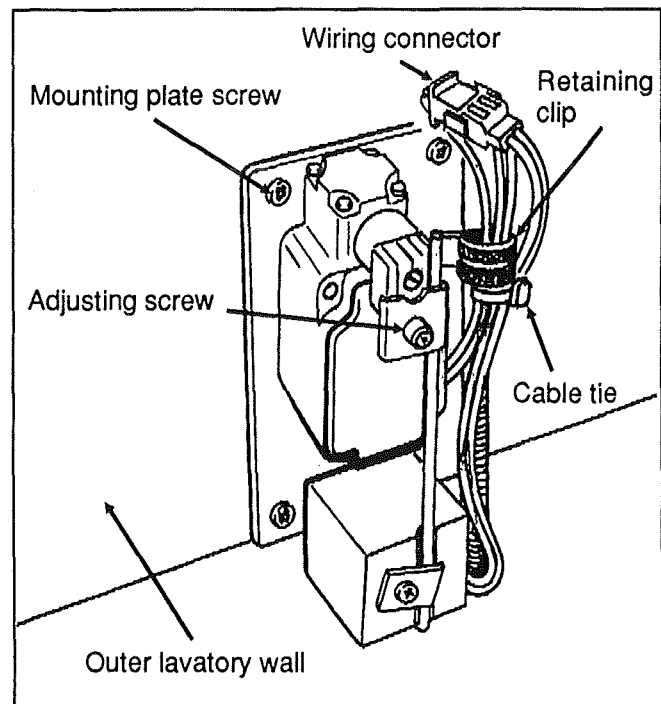

FIG. 10 - Comfort level Indicator
2. Locate the comfort level indicator cover, remove the four (4) Phillips head screws and washers retaining cover to the lavatory wall, then remove cover.
3. Unscrew the adjusting screw (see fig. 10), raise the weight to decrease the sensitivity, or lower the weight to increase the sensitivity of the comfort level indicator, then tighten the weight rod with the adjusting screw.
4. Install the comfort level indicator cover, then secure with the four (4) Phillips head screws and washers.